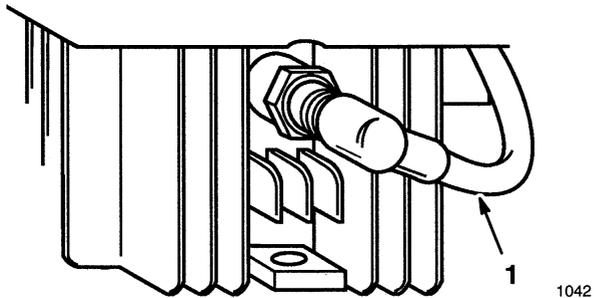

Figure 39
3. Remove spark plug (Fig. 39) and spin engine rapidly using starter to blow excess oil from the cylinder. Clean spark plug or replace if cracked, broken or electrodes are worn.
7. Reconnect spark plug wire (Fig. 39).